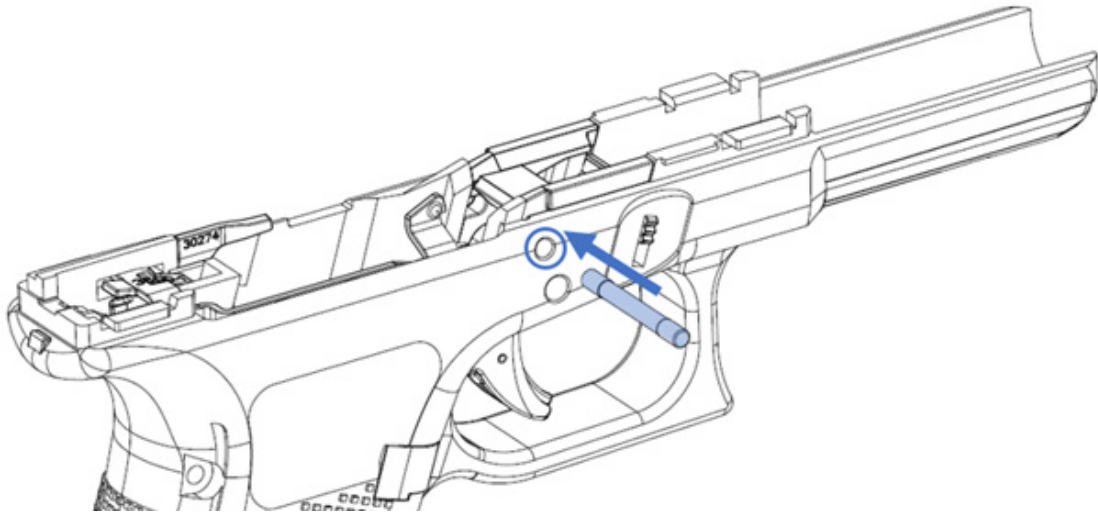

Figure 49: Locking Block Pin assembly direction.
d) Insert the Locking Block Pin from right to left (Figure 49).